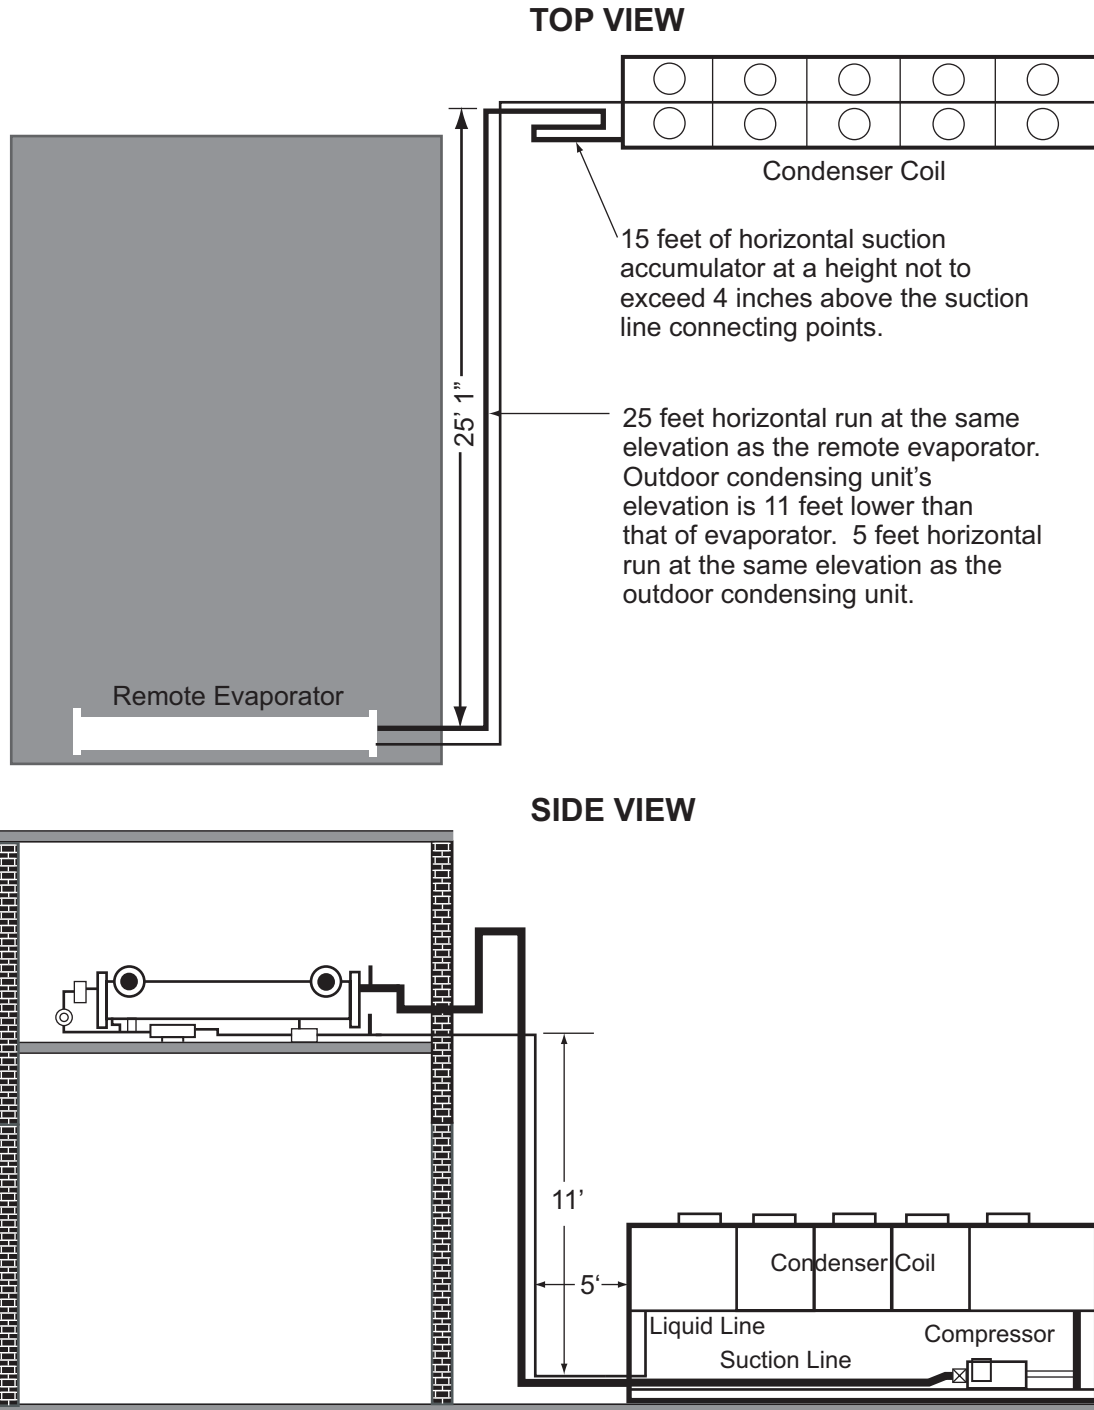
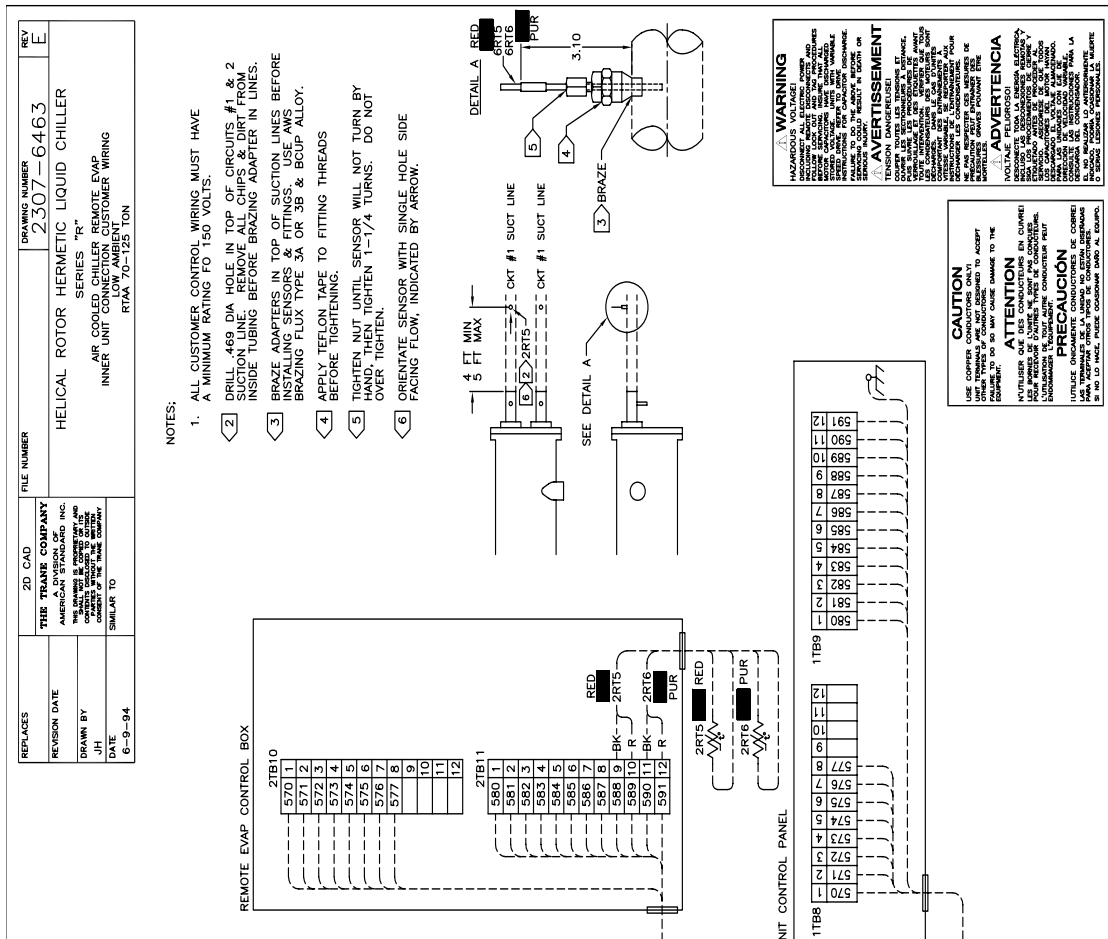

Figure 23 Suction Accumulator Sizing Example
Figure 24 Refrigerant Sensor Mounting and Wiring
3. According to Figure 23, there are 6 long radius ELLs. From Table 2b for a diameter of 2-5/8 inches:
The following example uses Figure 23 and assumes a 50 ton circuit with a 2-5/8 inch O.D. suction line. Figure 23 illustrates an installation where the remote evaporator is 11 feet above the outdoor condensing unit. A liquid line at the same elevation as the evaporator runs horizontally 25 feet. Then it drops 11 feet to the same elevation as the suction line connecting points on the outdoor condensing unit, and runs horizontally 5 feet to the outdoor condensing unit. From Figure 23, the actual length of liquid line is 41 feet (25 + 11 + 5). With the previously mentioned assumptions, Table 7 indicates 15 feet of 2-5/8 inch O.D. suction accumulator needs to be added. Figure 24 shows one method of piping the additional 15 feet.
The suction line refrigerant sensors must be installed by the contractor installing the refrigerant piping. The sensors are prewired and each is "wire-tied" to its respective liquid line. Fittings and adapters for mounting of the sensors are located in the remote evaporator terminal box. See Figure 24 for mounting instructions.